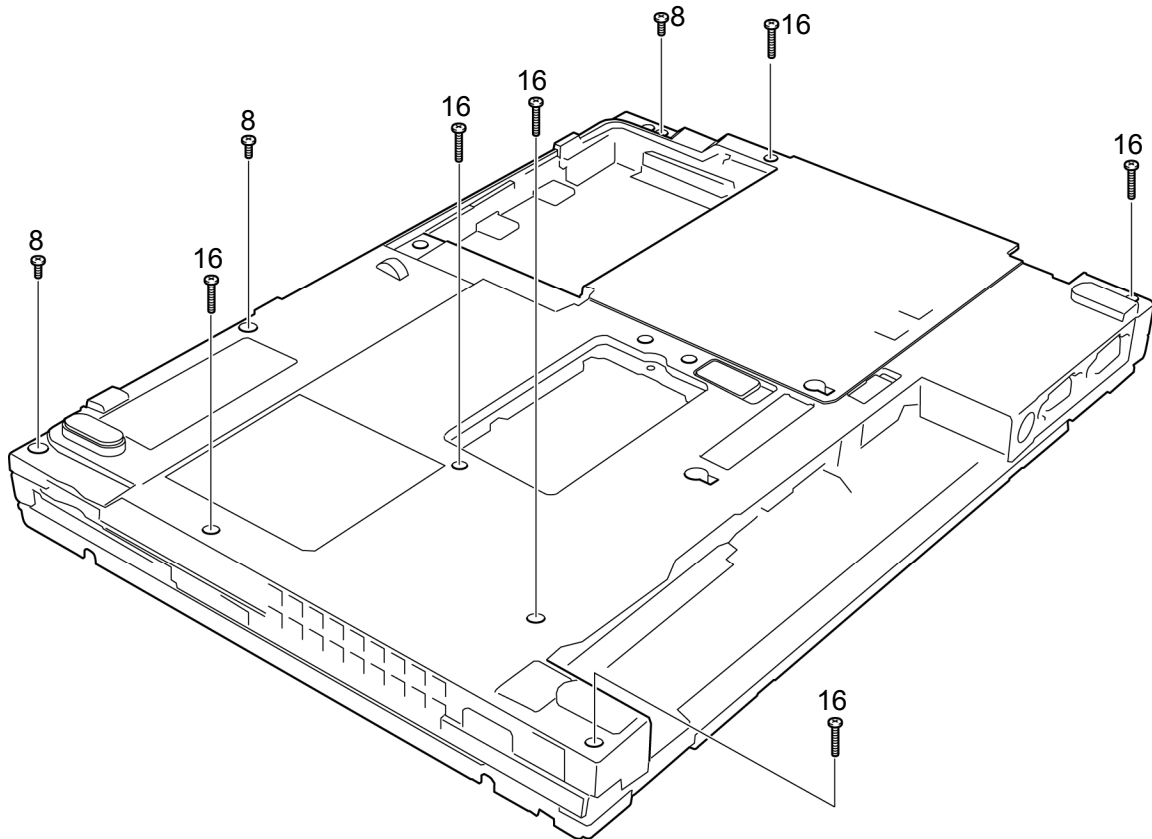

Figure 4-24 Removing the cover assembly and base assembly (1)
The following describes the procedure for removing the cover assembly and base assembly. (See Figure 4-24 and 4-25.)
The following describes the procedure for installing the cover assembly and base assembly. (See Figure 4-24 and 4-25.)
- M2.5×8B FLAT HEAD screw ×3 (“8” in the figure 4-24)
- M2.5×16B FLAT HEAD screw ×6 (“16” in the figure 4-24)